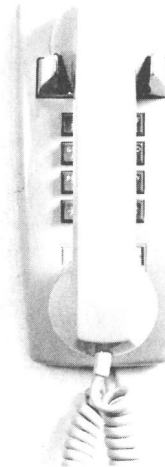

FIGURE 1.
- 1.01 This practice provides the connections for the 2554**(BA)30M type telephone set. This set is a standard wall type touch-tone instrument equipped with a straight line ringer. (See Figure 1).